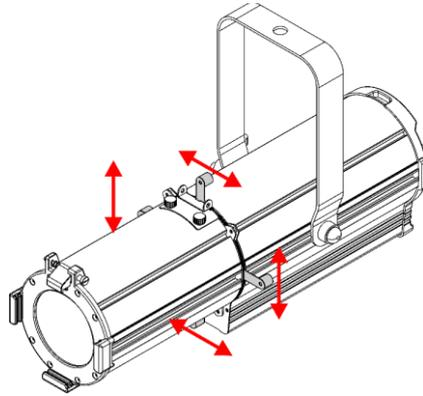

Fig. 09
You can shape the beam with the 4 **framing shutters (03)**. Move the **framing shutters (03)** back and forth to modify the shape of the beam (see Fig. 09).